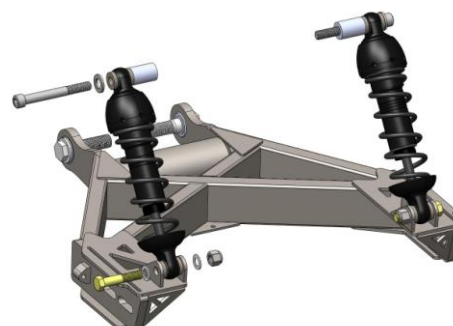

Figure 4
- a. Bolt shocks from Box 1 to OE upper shock mount and swing arm as shown using the supplied hardware from Box 2. Figure 4